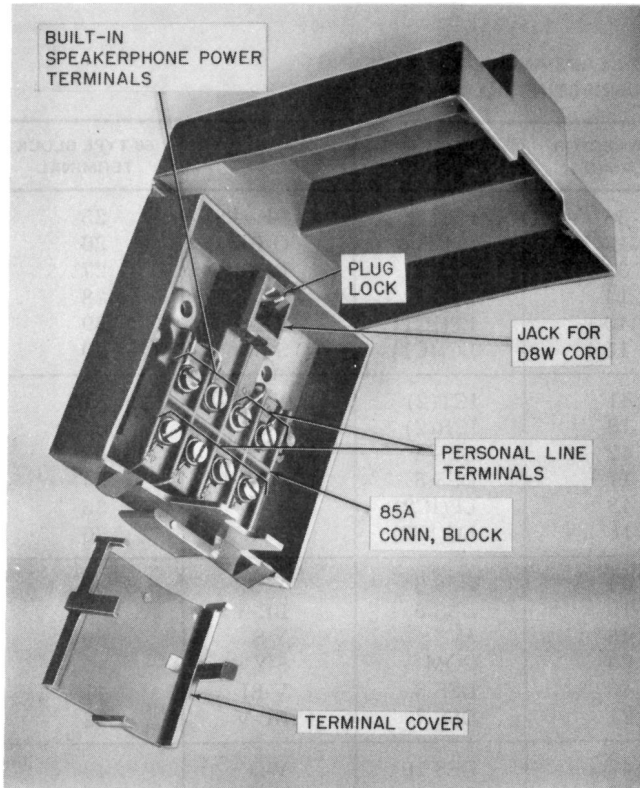

Fig. 11—86A Connecting Block
3.16 Connect each set into the system with the attached D50AW-50 mounting cord; plug its free end into its assigned bridging adapter or extension cable. BIS satellite desk stations require an additional connection to provide power for the built-in speakerphone. Mount the 86A block (Fig. 11) supplied with each BIS set in a convenient place near the station, and plug the D8W-50 cord extending from the back of the set into it. Use inside wire to connect terminals 7 and 8 of the 86A block to the 2012B transformer supplied with the set. **Do not plug the 2012B into an ac receptacle until all installation is complete.**
3.22 Convert the 86A connecting block (Fig. 11) supplied with the set to an 85A block and mount it on the wall plate as follows: